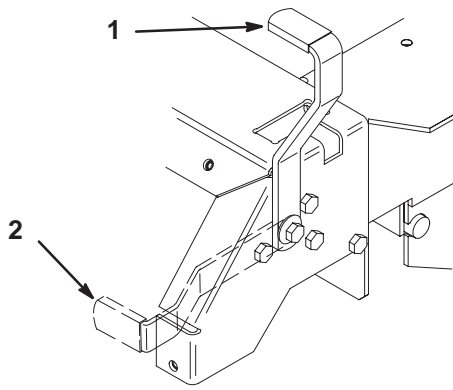

Figure 10
1. Move the motion control levers (Fig. 10) out to the neutral lock position.
2. Pull back and up on the parking brake lever to set the parking brake (Fig. 10). The parking brake lever should stay firmly in the Engaged position.
Push forward and down on the parking brake lever to release the parking brake (Fig. 10). The parking brake is disengaged.